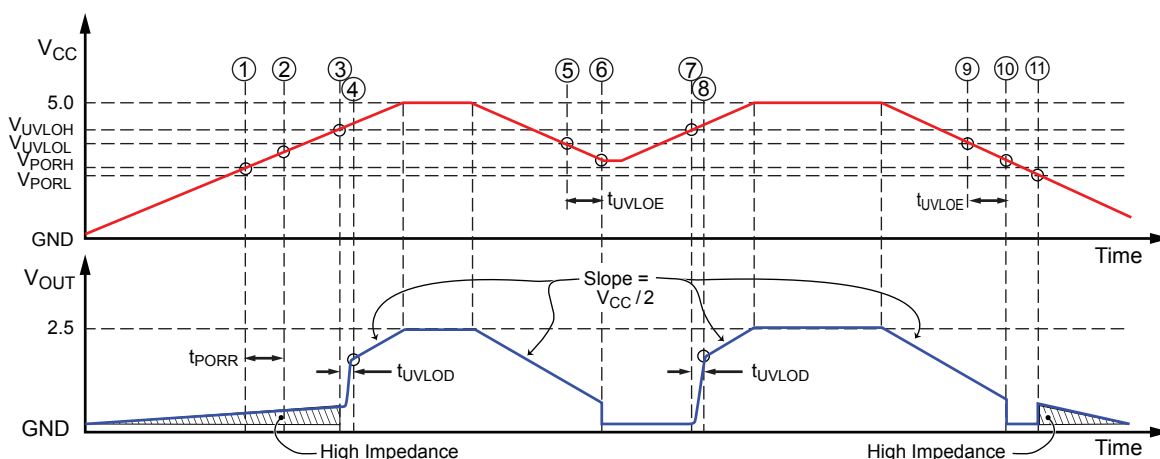
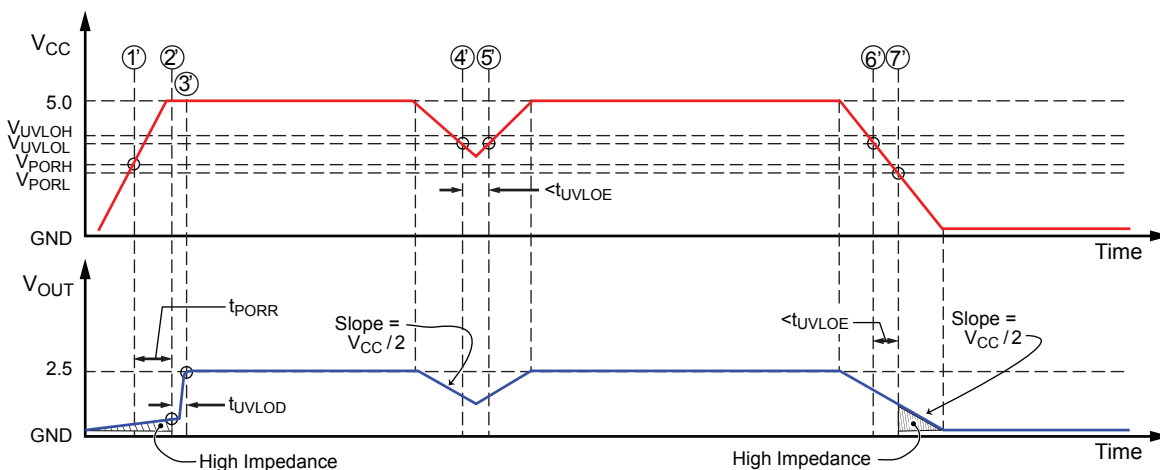

Figure 8: POR and UVLO Operation: Slow Rise Time Case
Figure 9: POR and UVLO Operation: Fast Rise Time Case
- **Power-Up** At power-up, as  $V_{CC}$  ramps up, the output is in a high impedance state. When  $V_{CC}$  crosses  $V_{PORH}$  (location [1] in Figure 8 and [1'] in figure 9), the POR Release counter starts counting for  $t_{PORR}$ . At this point, if  $V_{CC}$  exceeds  $V_{UVLOH}$  [2'], the output will go to  $V_{CC}/2$  after  $t_{UVLOD}$  [3']. If  $V_{CC}$